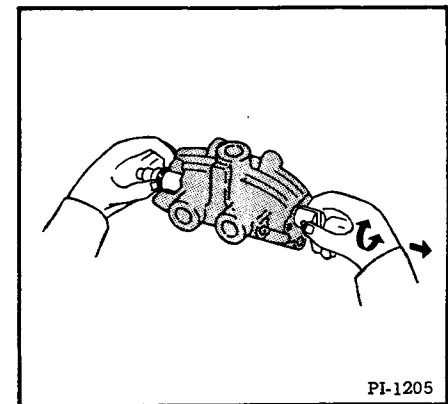

Fig. 22 Installing A New Back Seal
(6) Carefully install a new seal into the groove (Fig. 22). After the seal is in place, carefully squeeze the seal into the housing while turning and lightly pulling the spool into the valve body (Fig. 22).